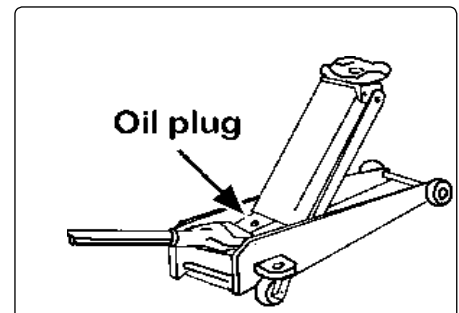

fig.2
- 6.3. To check the oil level, fully lower the Jack. Remove filler plug (fig.2). The correct oil level should be approximately 5mm below the filler opening. If oil level is low, fill as required. Pump unloaded jack 15 to 20 times to expel air and then refit plug.